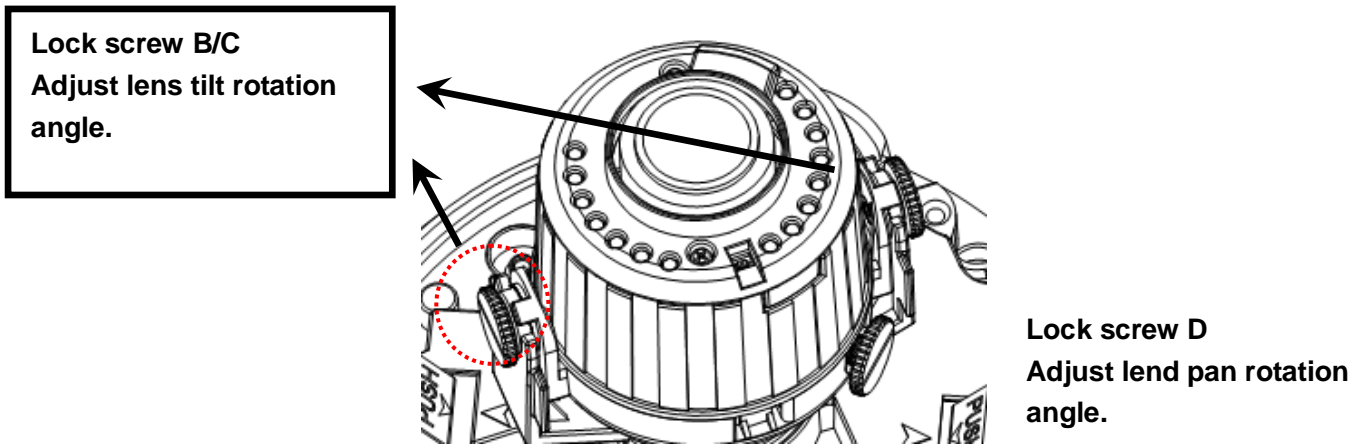

Figure 3-7 Installation 5
c). Lens tilt rotation angle. Please refer to Figure 3-7 to unfasten the lock screw B and lock screw C and adjust the tilt monitor angle to the proper position. Then fix the lock screw B and lock screw C. The tilt angle ranges from -23° ~ $+73^{\circ}$.
d). Image pan rotation angle setup. Please refer to Figure 3-7 to turn lock screw D to adjust the video pan angle. Then fix the lock screw B and C. The video pan angle ranges from 0°~+350°.
Please note Figure 3-6 and Figure 3-7 is based on the IR motorized zoom camera. For the IR manual zoom camera and non-IR series product, the lock screw position and the lens angle adjustment are the same.